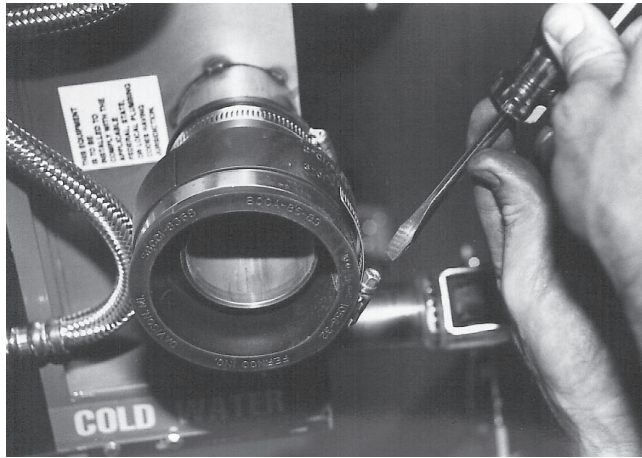

Fig. 49
3. With standard flat blade screwdriver, loosen the (2) rear drain coupling holding clamps and pull the coupling from the appliance. Retain the clamps for installation of new part. (Fig. 49)